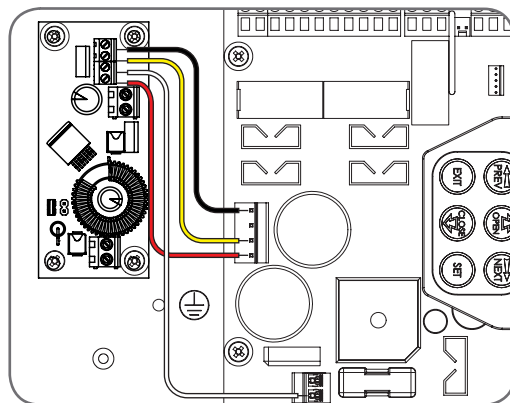

Fig 06
4. Plug the Charger Board's three wire harness (red/yellow/black) into the DCB-05 board's "SBY-3" connector (Fig. 06).
5. Plug the Charger Board's one wire harness (white) into the "24vac in" connector on DCB-05 control board (Fig. 06).